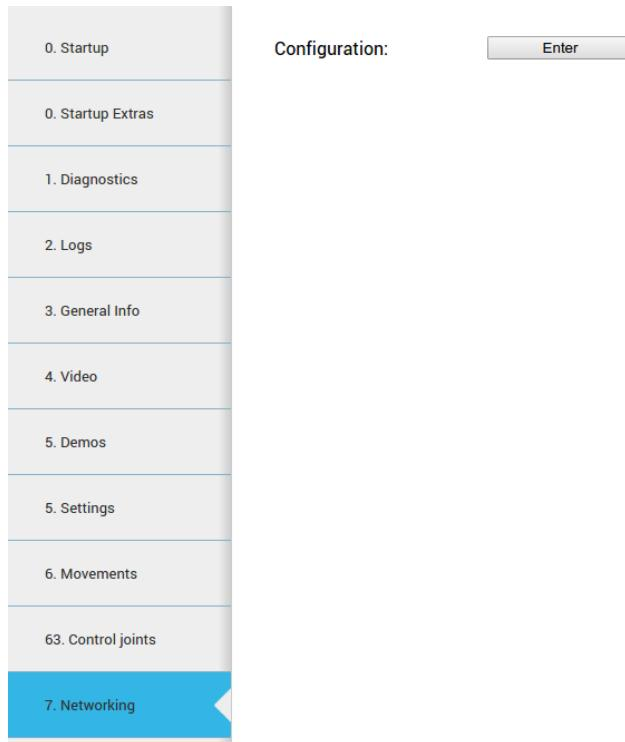

Figure 41: Networking configuration
**Description** Figure 41 shows the networking tab. By default, the controls for changing the configuration are not visible in order to avoid access by multiple users.